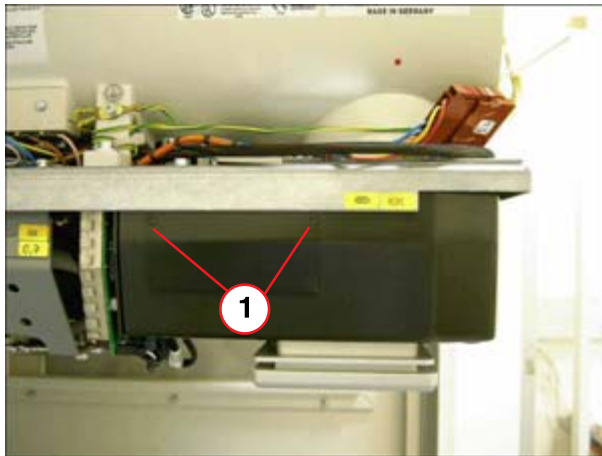

Fig. 24: Collimator
- Remove the two screws (1/Fig. 24 / p. 47)
- Reinstall the plate with the screws (1/ Fig. 24 / p. 47)